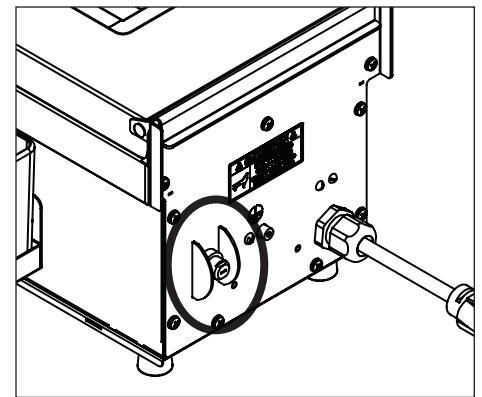

Figure 6. Hi Limit Control
2. Remove the black protective cap from the Hi Limit Switch (Figure 6). Press and release the button.